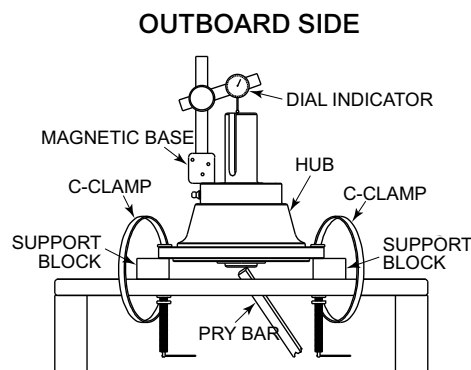

Figure 6.4.1 Setting Axial Bearing Clearance
1. Support housing to allow the shaft to rotate freely (reference Figure 6.4.1).
2. Affix the hub to the support table with C-Clamps or bolting to table (reference Figure 6.4.1).
5. Affix the magnetic base of the dial indicator to a flat area of the housing (reference Figure 6.4.1).
8. With a pry bar, push the inboard end of the shaft up (reference Figure 6.4.1).